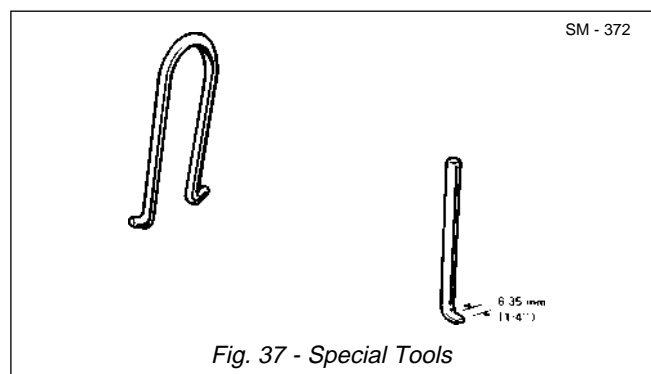

Fig. 37 - Special Tools
13. Remove seal retainer (3) and seal (5) from shaft end cover (6). See Fig. 17. The seal retainer removal tool shown in Fig. 37 can be easily made for this purpose. Remove and discard 'O' ring (4).
14. Tap seal (5) from seal retainer (3). See Fig. 18. The tool shown in Fig. 37 can be fashioned to separate these parts.
15. If necessary, remove bearings (9) and ring seals (8) from shaft end cover (6), bearing carrier (18) and
The special tools shown in use in Figs. 17 & 18 can be fabricated as shown in Fig. 37.